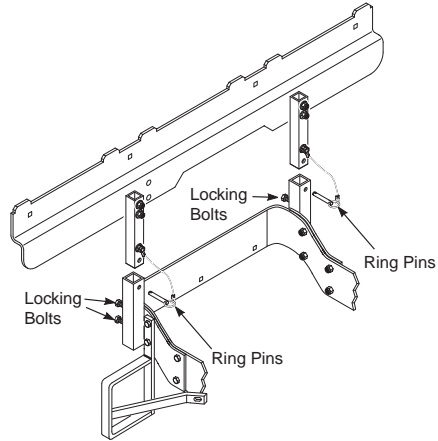

FIGURE 3-6
- Attach the hood assembly to the machine by installing the mounting post into the hopper mounting brackets. Secure with the ring pins and tighten the locking bolts. See Figure 3-6.